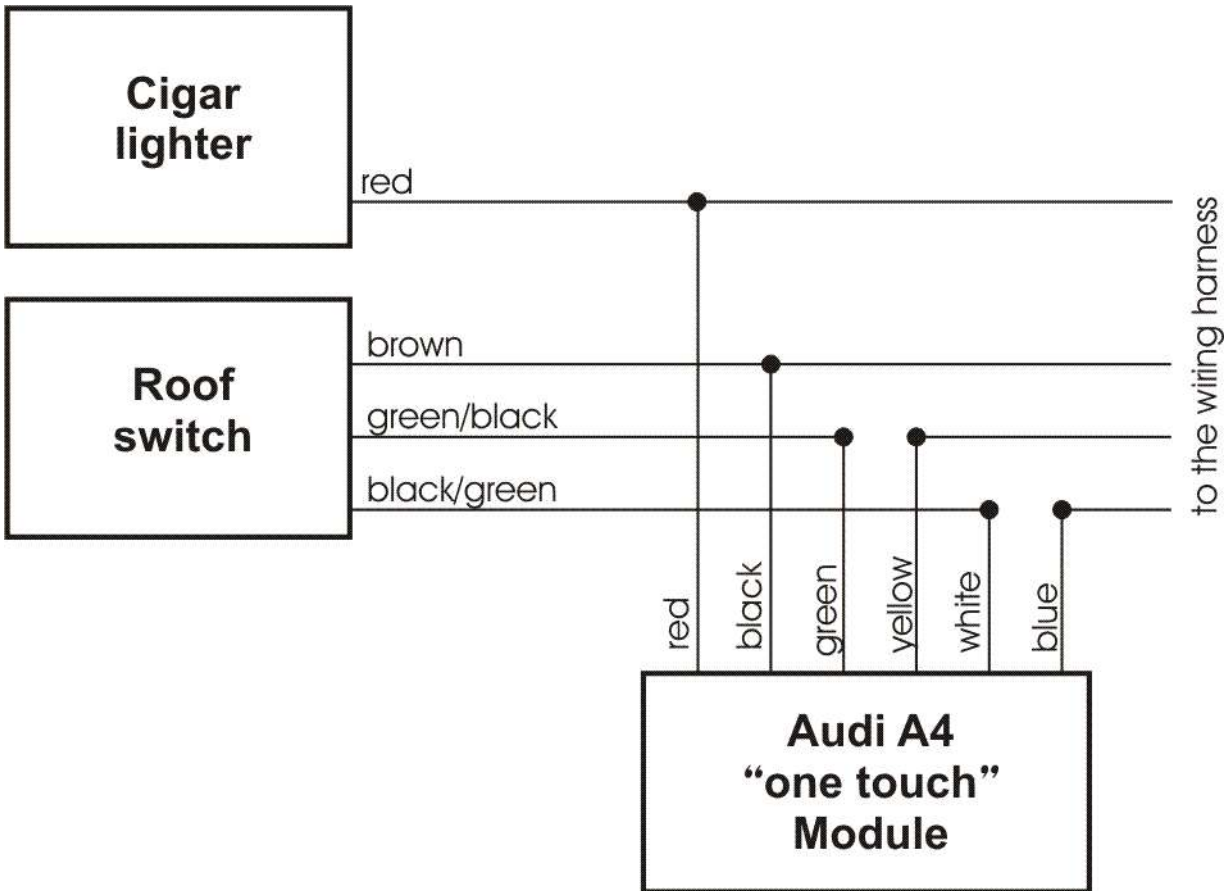

Figure 5: Wiring of the „one touch“-Module
3. Connect the module according to the connection diagram (Fig 5) with the roof switch. The red cable of the „one touch“-Module has to be connected to the red cable of the cigarette lighter (Fig 4). The best connection is obtained by soldering.